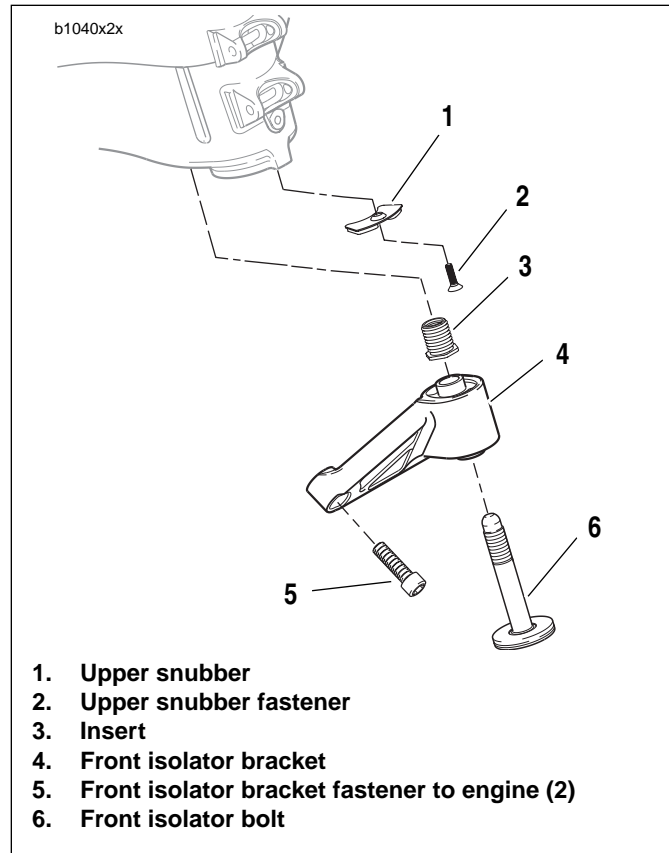

Figure 2-89. Front Isolator
3. See Figure 2-89. Remove front isolator bolt (6).
4. Remove front isolator mount fasteners (5).
5. Remove front isolator bracket (4).
6. Remove upper snubber fastener (2) and remove upper snubber (1).
See Figure 2-89. If the threaded insert (3) is damaged and needs to be replaced, install new insert with **LOCTITE 272 (red)** and tighten to 59-61 ft-lbs (80-82.7 Nm).
7. See Figure 2-89. Install upper snubber (1) tightening snubber fastener (2) to 12-36 **in-lbs** (1-4 Nm).
8. See Figure 2-89. Use **LOCTITE 272 (red)** on front isolator bracket (4) and loosely install to front isolator bracket.
9. Tighten fasteners (5) to 49-51 ft-lbs (66-69 Nm).